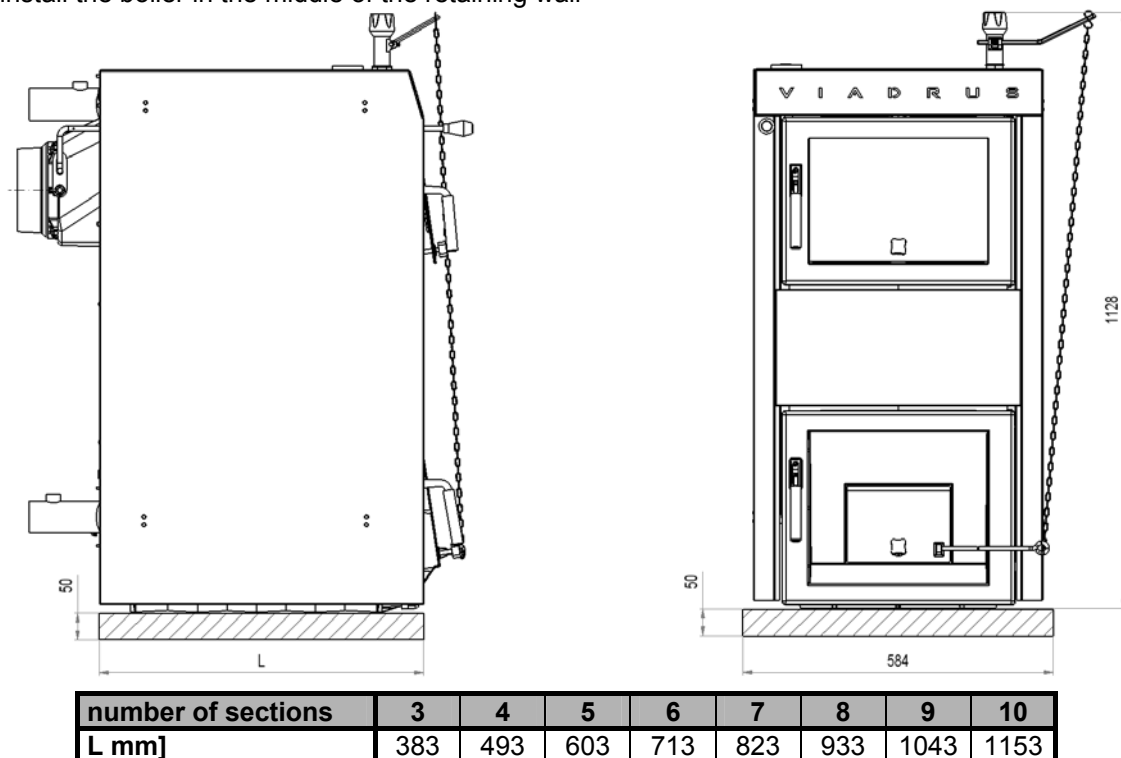

Fig. No. 9 Substruction (retaining wall) dimensions
1. Installation on a floor made of incombustible material (Fig. No. 9)